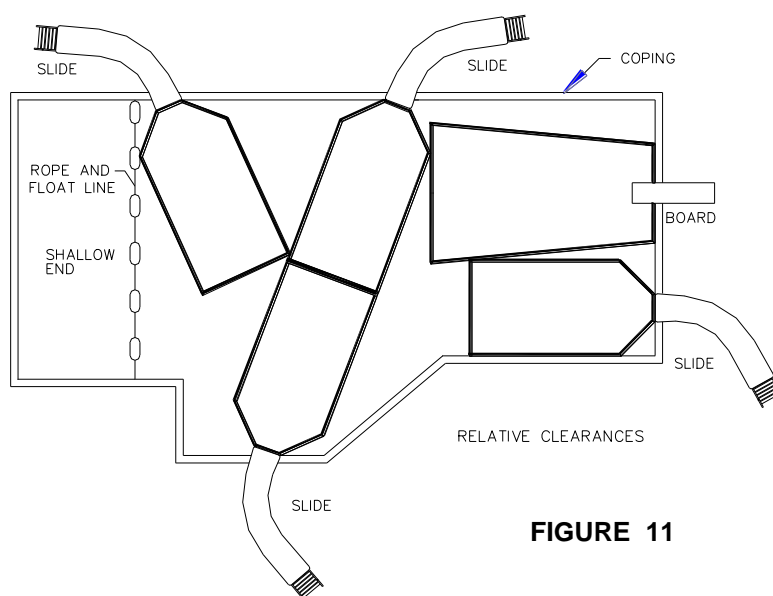

FIGURE 11
- B. The minimum clearance area of a slide or diving board shall not intersect any coping or rope and float line as shown in FIGURE 11. The minimum clearance area of a slide or diving board may intersect each other provided that they are not used simultaneously.